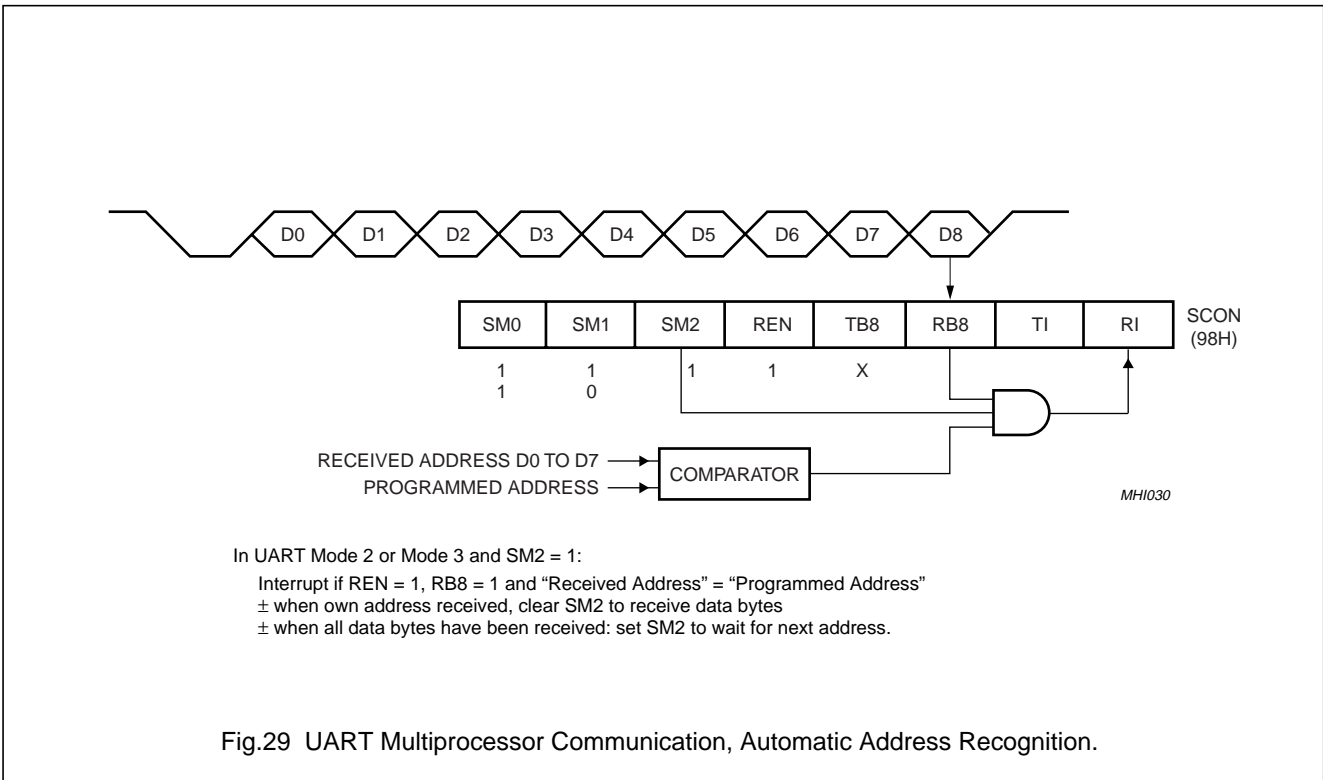

Fig.29 UART Multiprocessor Communication, Automatic Address Recognition.
Automatic Address Recognition is a feature which allows the UART to recognize certain addresses in the serial bit stream by using hardware to make the comparisons. This feature saves a great deal of software overhead by eliminating the need for the software to examine every serial address which passes by the serial port. This feature is enabled by setting the SM2 bit in S0CON. In the 9 bit UART modes, mode 2 and mode 3, the Receive Interrupt flag (RI) will be automatically set when the received byte contains either the "Given" address or the "Broadcast" address. The 9 bit mode requires that the 9th information bit is a 1 to indicate that the received information is an address and not data. Automatic address recognition is shown in Figure 29.